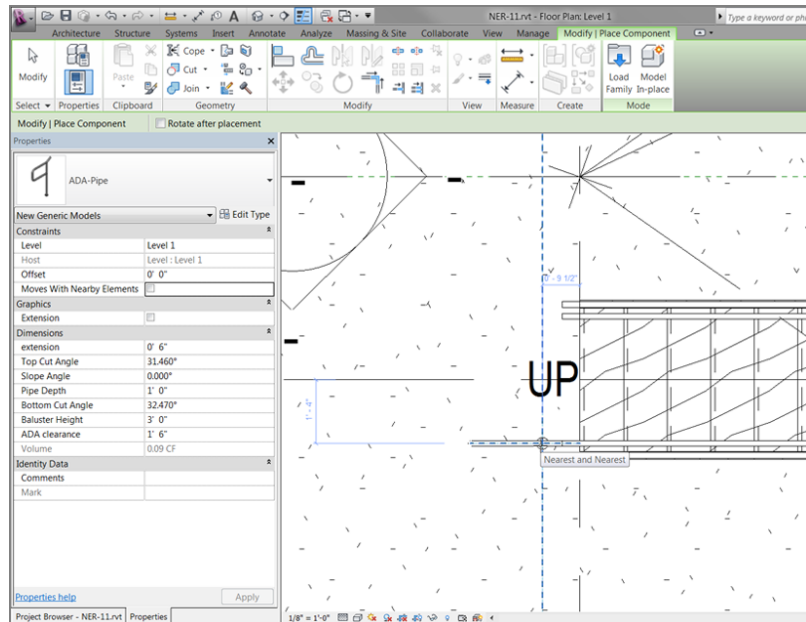

FIGURE 10.15: Placing the family in the intersection
10. Press the spacebar once to rotate the family into place so that it's oriented as shown in Figure 10.15.
11. Place the family at the intersection of the two reference planes (see Figure 10.15), and then press Esc twice or click Modify.